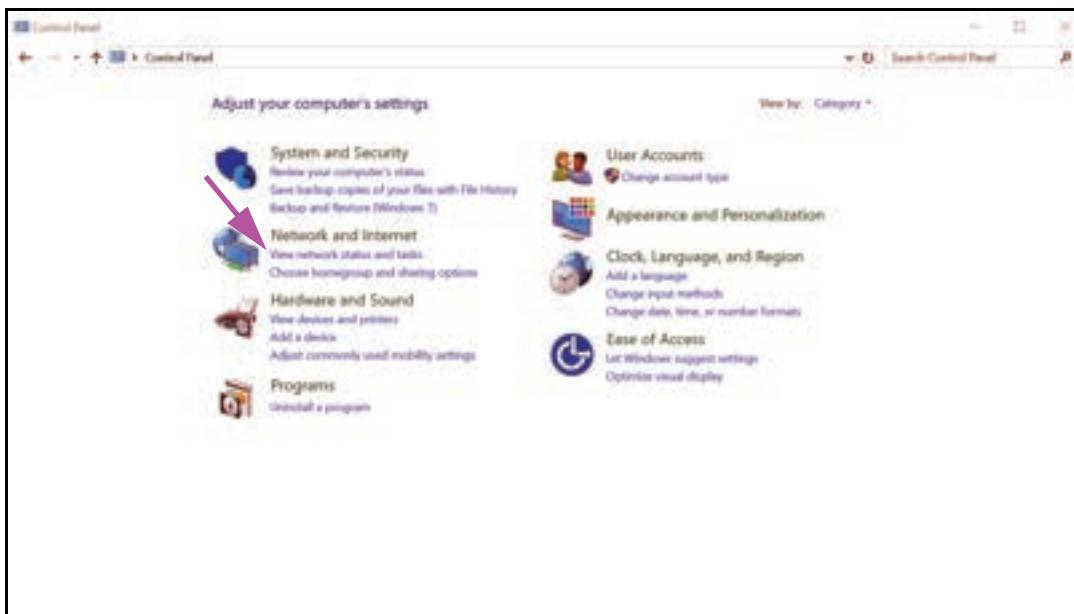

Figure 2-44. All Control Panel Items Window—Category View
3. Select **Control Panel**. If the view is set for **Category**, the screen appears as shown in Figure 2-44.